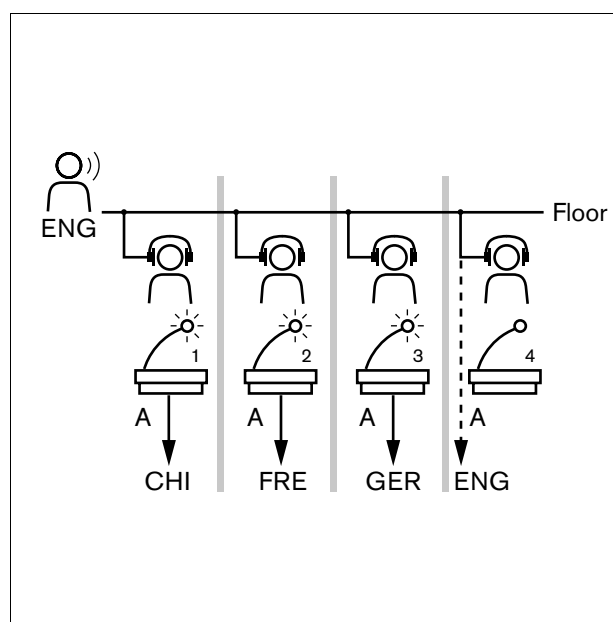

figure 4.10: Normal interpretation (floor active)
- Normal interpretation (see figure 4.10).
In the normal interpretation operation procedure (see figure 4.10), where the original floor language is familiar to all interpreters, they will listen to the original floor language for interpretation. The translations are then fed to the language distribution channels.